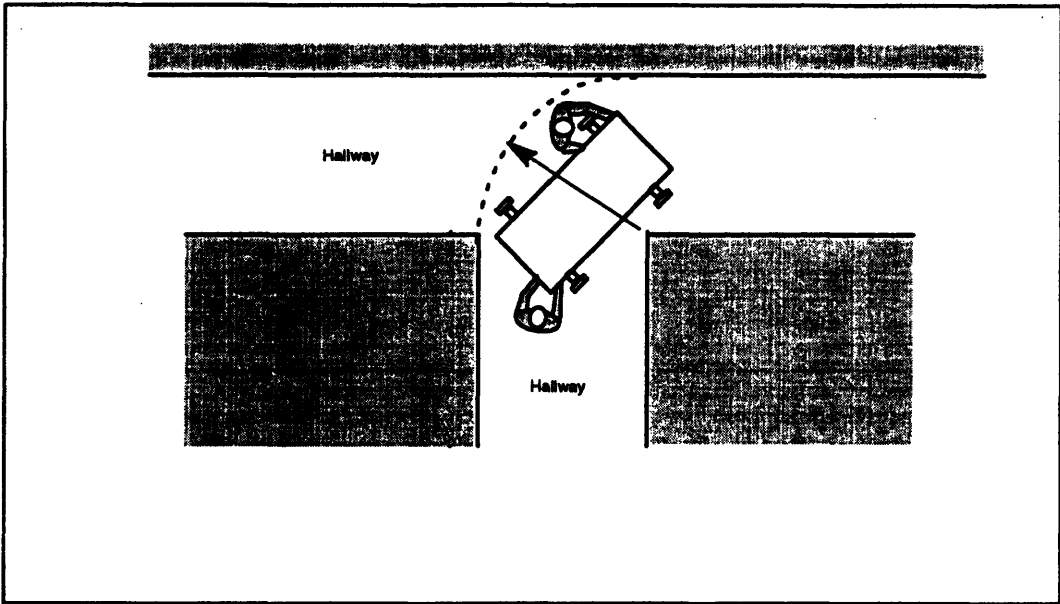

Figure 4. CM-5 passageway clearance requirement.
- If the route requires turning corners, verify that the passageway provides a sufficient turning radius at each corner. See Figure 4.